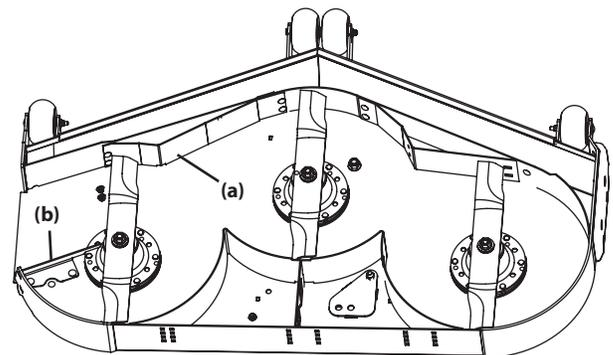

Figure 17
**\*Inner Baffle (48, 54 and 60 inch Decks Only):** The inner baffle (a) regulates grass discharge. Remove the inner baffle for high-volume grass and install the inner baffle for precision cutting (Figure 17).
**Discharge Baffle:** The discharge baffle (b) enhances the grass discharge pattern. The discharge baffle reduces clumping and should be removed for mulching (Figure 17).